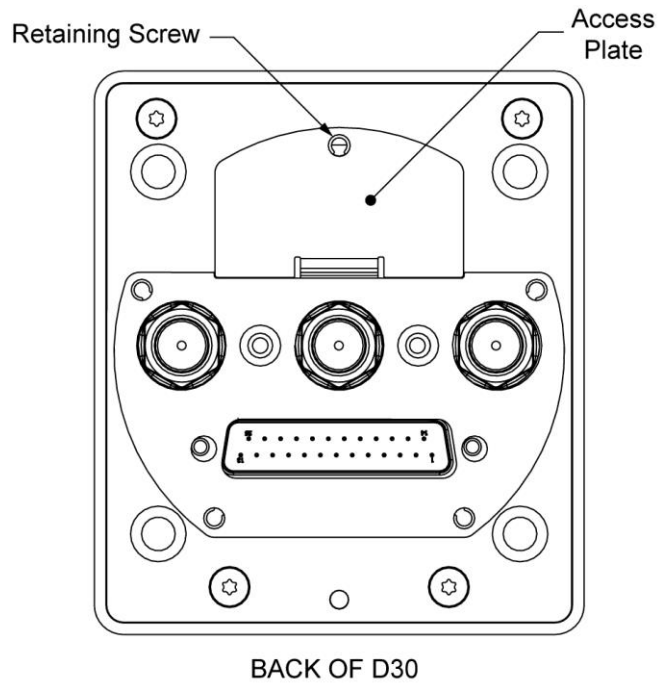

Figure 12: Backup Battery Access
4. On back of unit, loosen captured retaining screw on access plate (see Figure 12), and then remove access plate.